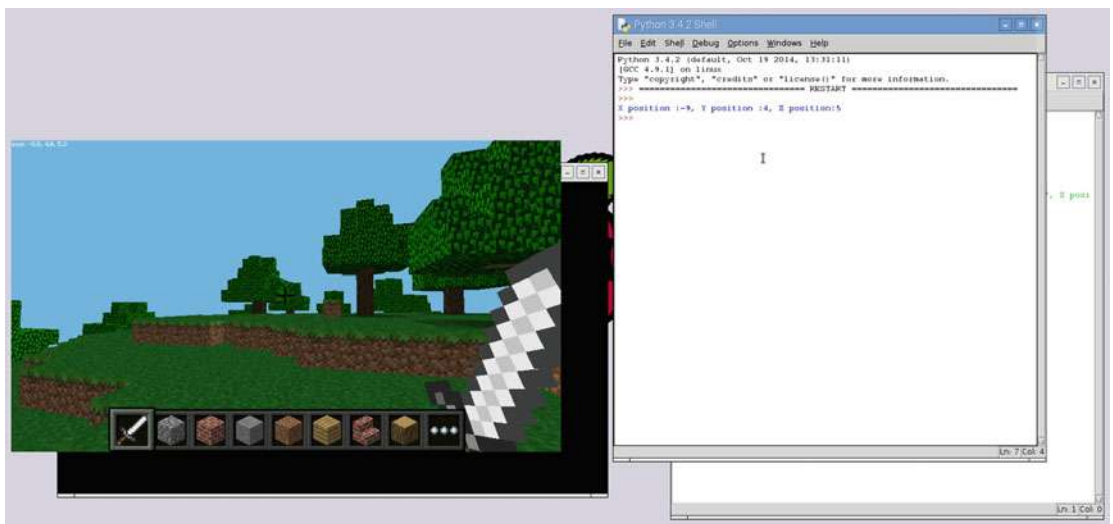

Figure 9-2. Finding your location in Minecraft
- The Z position is the latitude (north-south position). As the character moves north, z decreases. Moving south causes the value of z to increase. This is relative to the starting position of the character. The output to the print statement is shown in the IDLE run window, as shown in Figure 9-2.